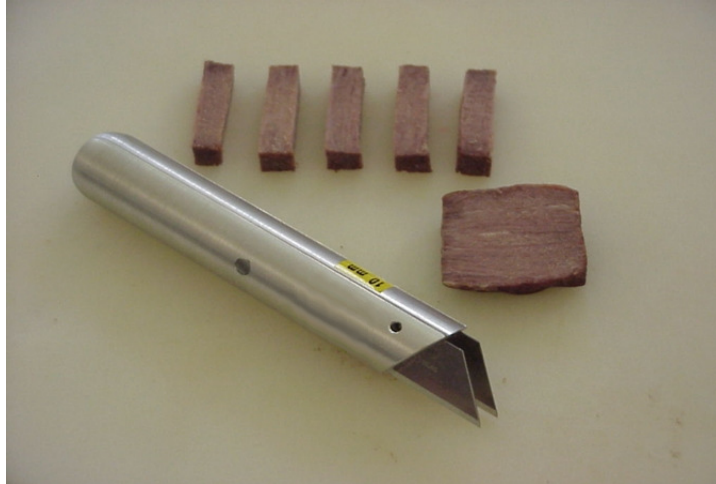

Figure 1. Sample preparation
3. Cut ten rectangular samples (bites) from each loin sample (Figure 1) using the 'Tenderometer knife as a guide. There should be no outer edges, excessive fat or any connective tissue within each 'bite' that is cut. Discard the edge pieces that have been cut away.